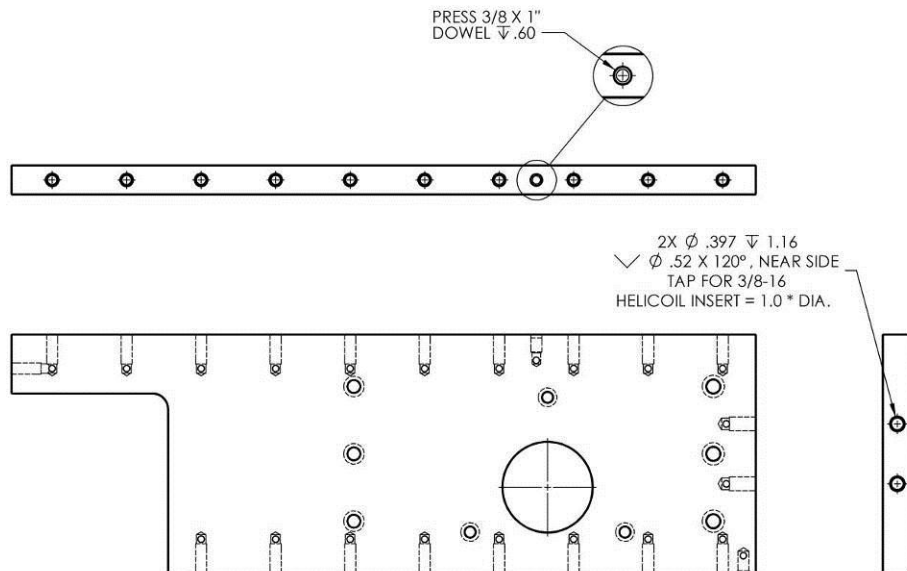

Figure 49: Prep Work for D0901522 Radial Right Wall
(1) 3/8" x 1" dowel pin
- Install Nitronic 60 Helicoil threaded inserts into D0901522. See Figure 49.
- Press (1) 3/8" x 1" dowel pins into D0901521. Pins should sit about 0.4" above the surface.